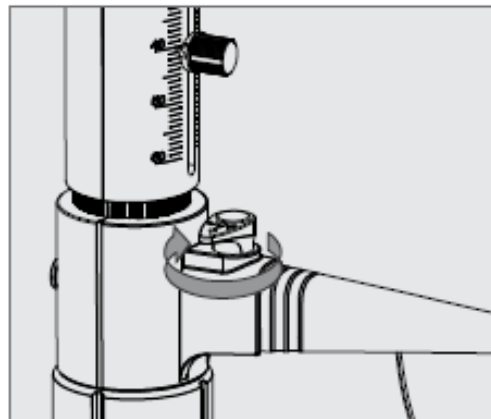

Fig.5
1. Adjust the knob to recirculation mode. (Fig.5)